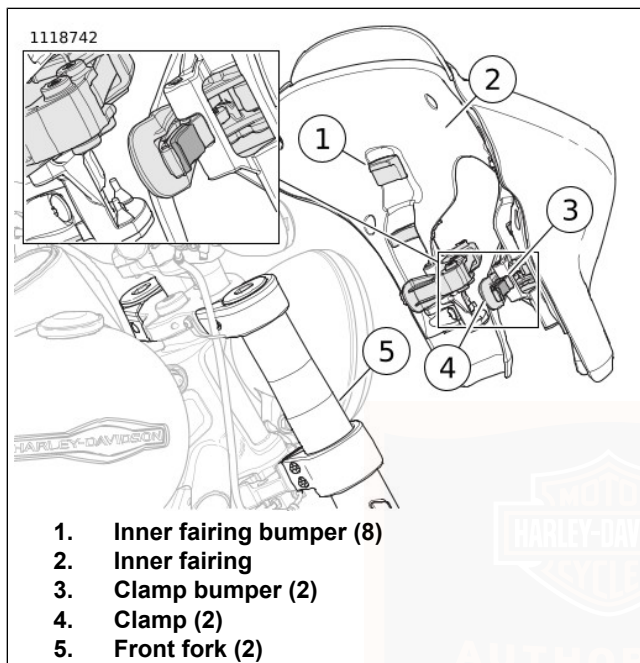

Figure 44. Fairing Clamps
1. See Figure 44. Inspect fairing.
- Verify inner fairing bumpers (1) and clamp bumpers (3) are in place, clean, and in good condition.
- Open and close clamps (4) to verify they are in working order.